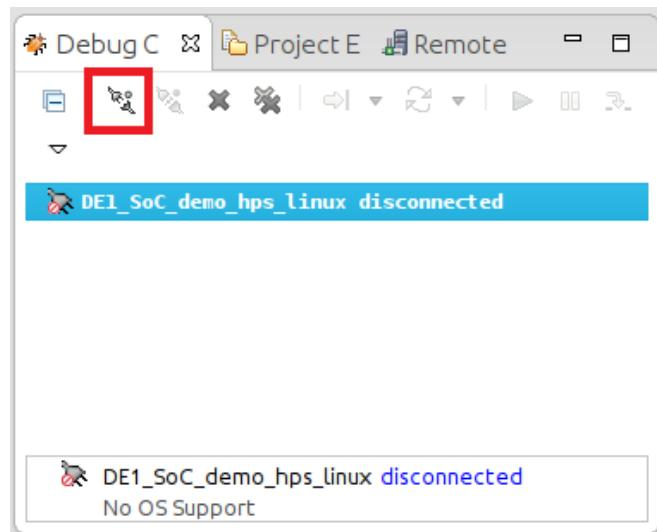

Figure 13-29. Debug Control View
91. In the “Debug Control” view, click on the “DE1\_SoC\_demo\_hps\_linux” entry, then click on the “Connect to Target” button, as shown on Figure 13-29. The debugger will start an SSH connection to the linux distribution running on the DE1-SoC and will automatically transfer our binary file and wait at our application's “main()” function. If you are prompted to log in, then log in with the **ROOT** user and password.